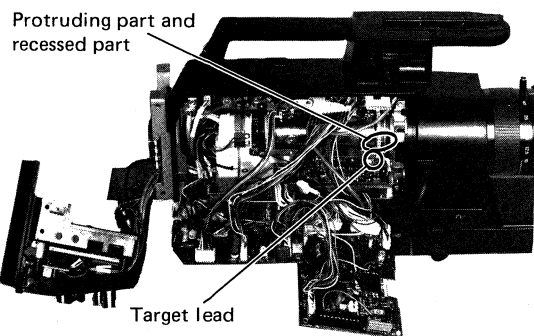

Fig. 3-1-10
2. Make sure that the protruding part of the deflection coil engages the recessed part of the coil holder. (Fig. 3-1-10)